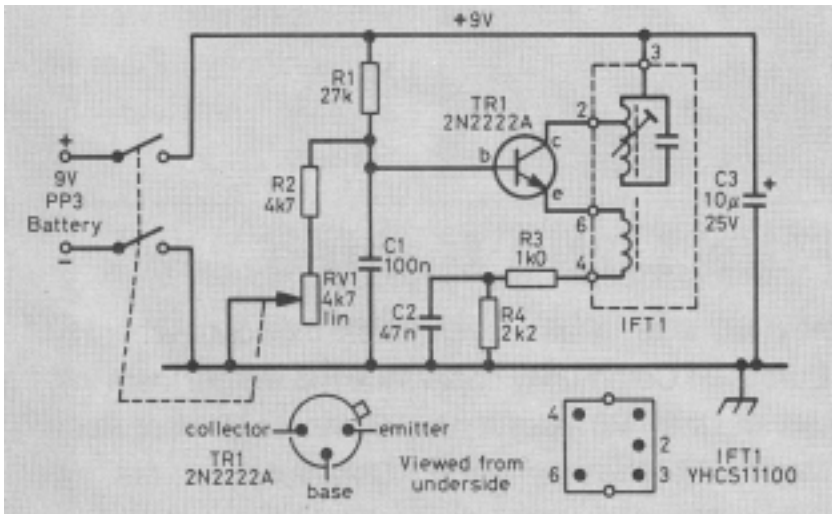
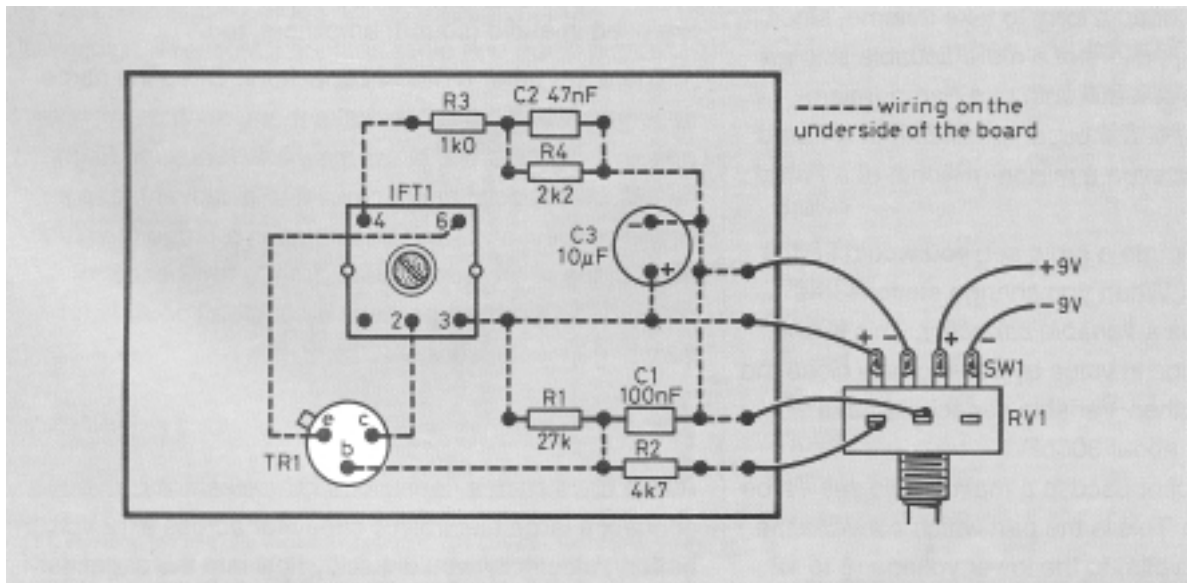

Figure 1 Circuit diagram of the BFO
Figure 2 Matrix board layout shown from the component side. Adjust IFT1 carefully for the best results
In the more complex amateur radio receiver, a BFO is incorporated as part of the whole system. In our model, it is an external circuit that sits alongside your radio. The circuit diagram is shown in **Figure 1**.
Look at **Figure 2** carefully before you start to build the circuit, so that you can position the components correctly. Firstly, inspect the intermediate frequency (IF) transformer, IFT1, and remove its metal screening can very carefully. Again, this is to allow some signal to escape from our circuit and enter our radio. Having done this, solder the components, using the matrix board as a support. Underneath the board, the components are linked by single-conductor, insulated wire. Take particular care with the polarity of the electrolytic capacitor, C3, and the connections to the transistor, TR1 (see Figure 1).